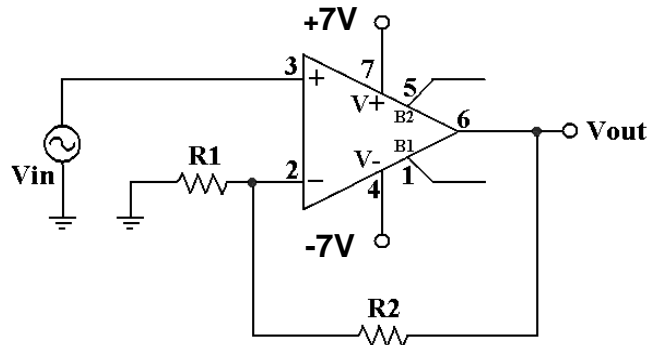
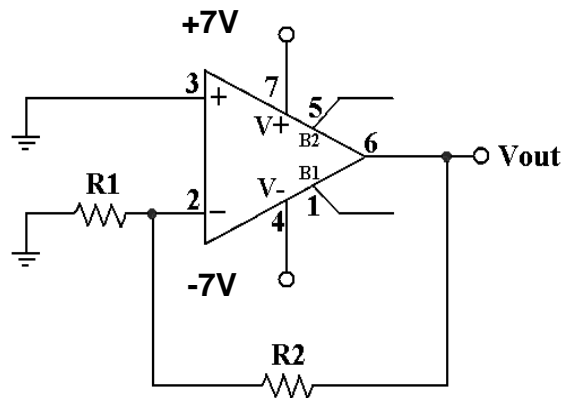

Fig. 2. Non-inverting Amplifier Configuration
Fig. 5. Offset Voltage Measurement Configuration
4. For the circuit shown in Fig. 2, derive the equation for the voltage gain at low frequencies (DC gain) assuming that the Opamp is ideal.
1. Turn the power supplies off. Connect the circuit as shown in Fig. 5 with the value of  $R_1$  and  $R_2$  you calculated in the pre lab for Fig 2. Then make sure that you have powered the chip with the dual power supply. For this measurement, the non-inverting input of the Opamp is grounded. Use the Digital Multimeter to measure the output voltage. This is the output offset voltage, which is a function of the OPAMP internal unbalances.
2. The input offset voltage of the Opamp can be calculated by dividing the output offset voltage by the circuit's gain, which is  $1+R_2/R_1$  for the circuit shown in Fig. 5.